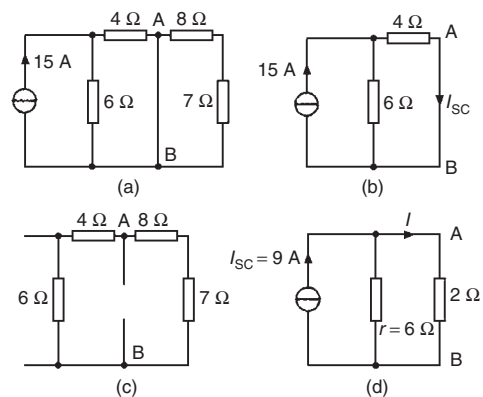

Figure 13.63
- (i) The 2 Ω resistance branch is short-circuited as shown in Fig. 13.63(a)
(ii) Fig. 13.63(b) is equivalent to Fig. 13.63(a). Hence
- (iii) If the 15 A current source is replaced by an open-circuit then from Fig. 13.63(c) the resistance 'looking-in' at a break made between A and B is given by (6 + 4) Ω in parallel with (8 + 7) Ω, i.e.
- (iv) From the Norton equivalent network shown in Fig. 13.63(d) the current in the 2 Ω resistance is